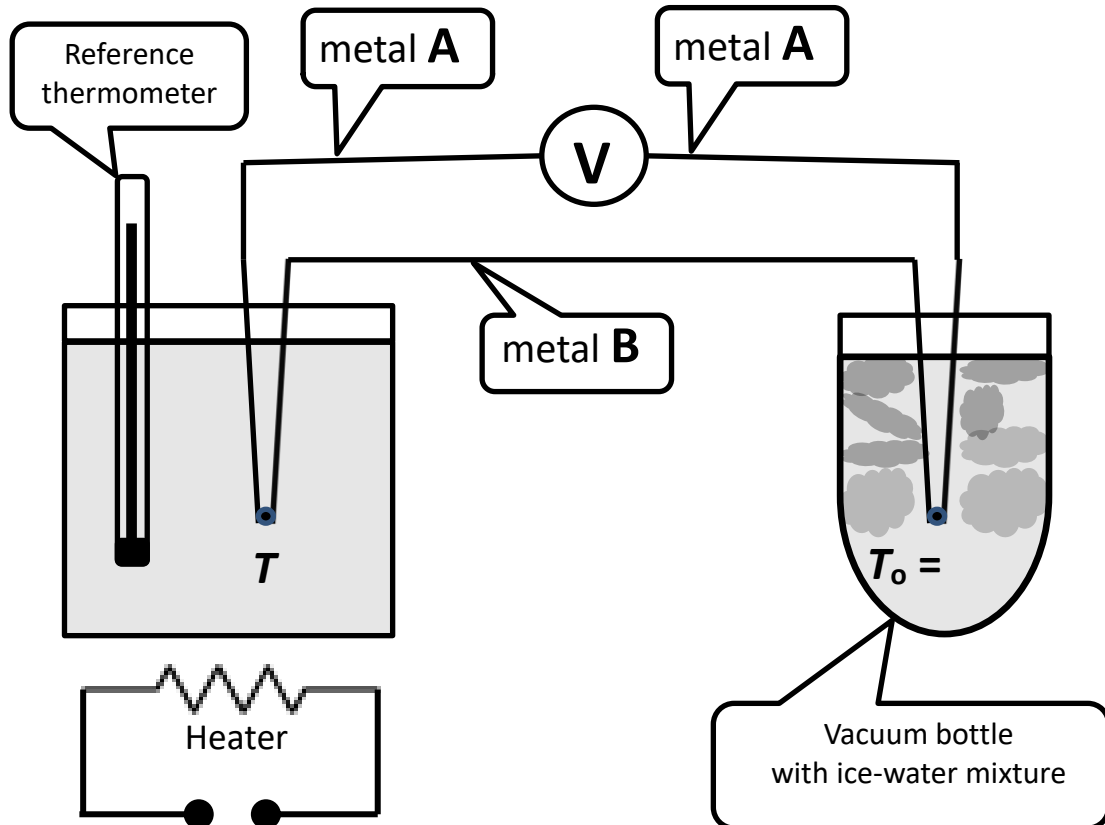

Fig. 1. Thermocouple scaling setup diagram.
- Connect the thermocouple to the voltmeter (see Fig. 1.) and switch it on.